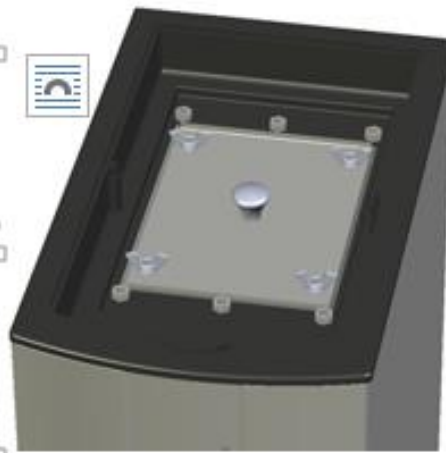

Fig 2
- Remove the top outer lid and the tank lid by removing the butterfly nuts. (Fig 2)